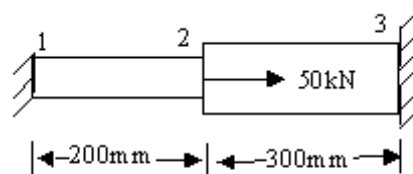

Figure 17:
1. Calculate by potential energy approach and RayleighRitz method and compare the displacements at node 2 of a fixed beam shown in Figure 17 below subjected to an axial load of 50kN at node 2. Take $E = 200 \text{ GPa}$ and $A = 1200 \text{ mm}^2$ for the bigger block made of steel and $E = 70 \text{ GPa}$ and $A = 900 \text{ mm}^2$ for the smaller block made of aluminium. [16]